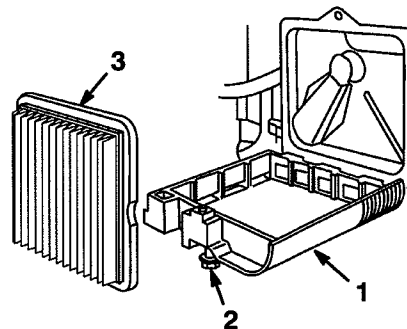

Figure 13
2. Remove screw securing air cleaner cover to engine (Fig. 13). Tilt cover down and clean cover thoroughly.
3. Remove paper air cleaner filter (Fig. 13) and discard.